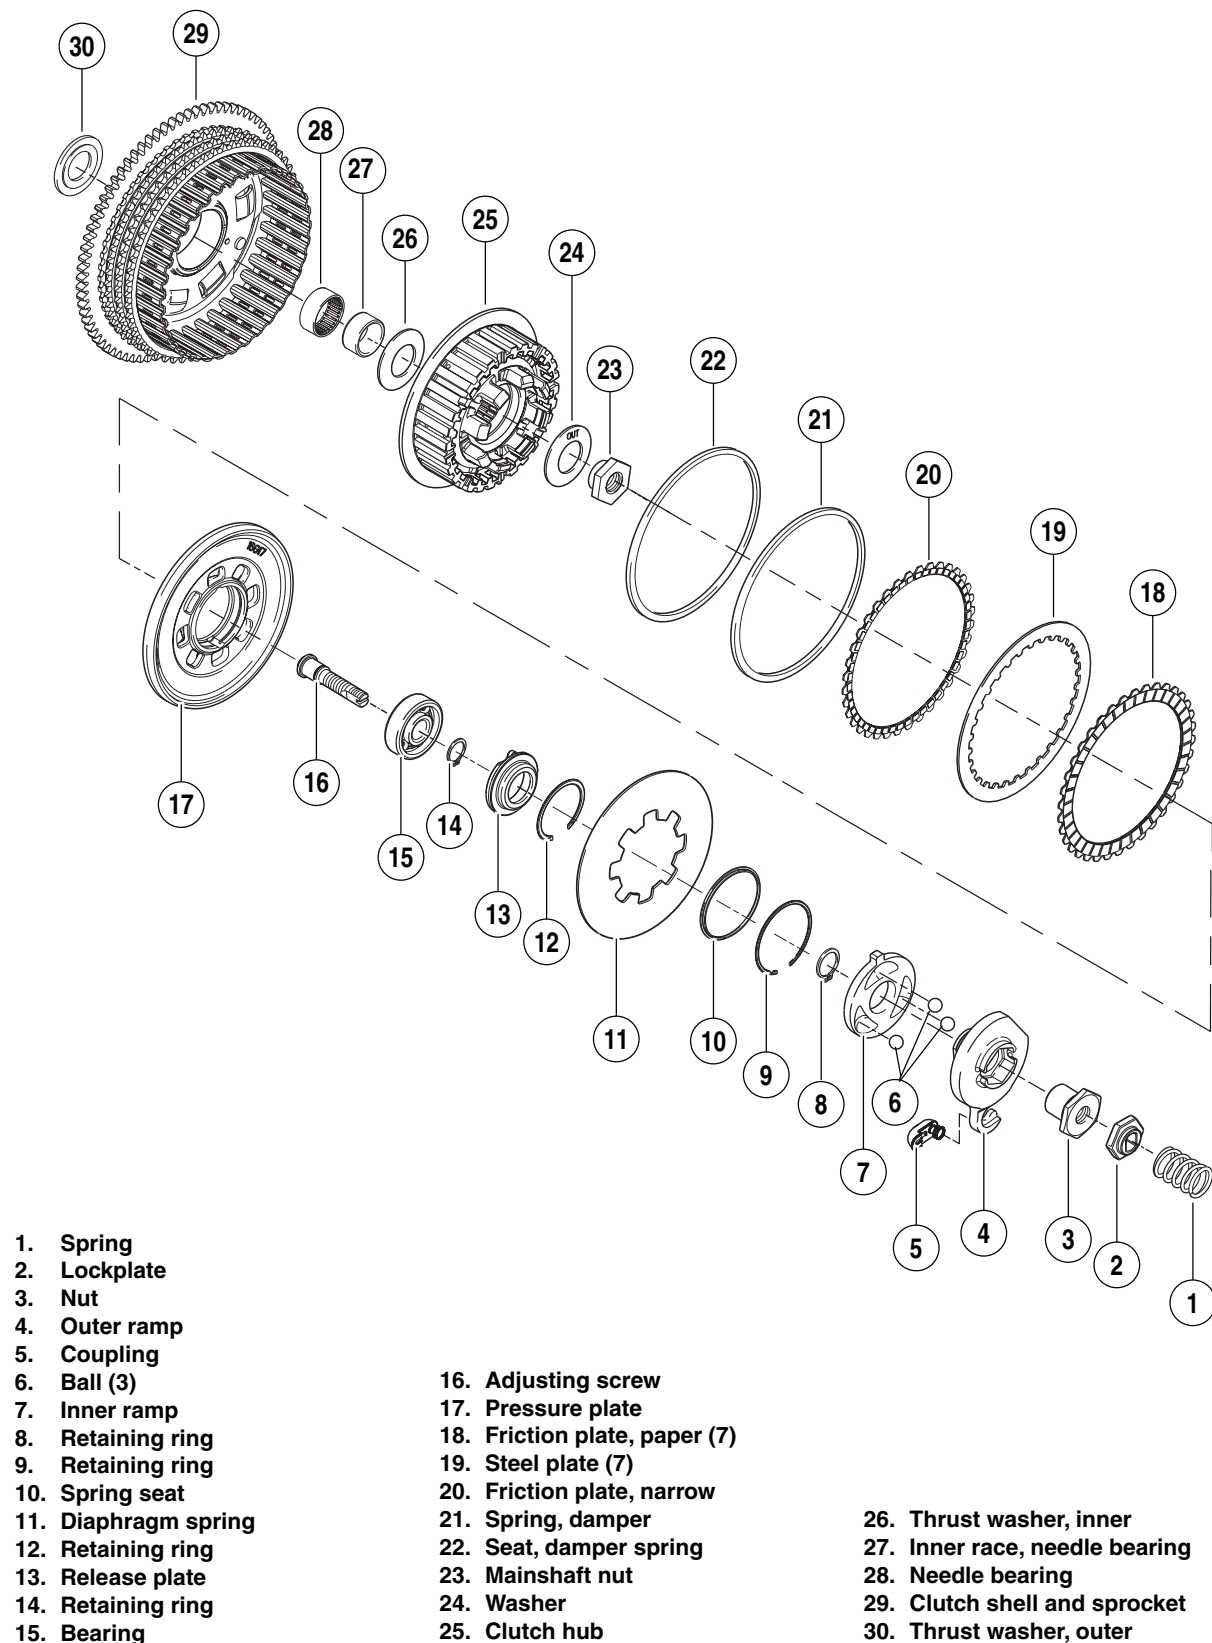

Figure 6-12. Clutch Assembly
See Figure 6-12. The clutch is a wet, multiple-disc clutch with steel plates and fiber (friction) plates stacked alternately in the clutch shell. The pack consists of seven fiber plates, seven steel plates, one narrow fiber plate, one damper spring and one damper spring seat. The fiber plates (clutch driving plates) are keyed to the clutch shell, which is driven by the engine through the primary chain. The steel plates (clutch driven plates) are keyed to the clutch hub, which drives the rear wheel through the transmission and secondary drive belt.
4. See Figure 6-12. Remove the clutch pack from the hub/shell assembly. The pack consists of seven fiber plates, seven steel plates, one narrow fiber plate, one damper spring and one damper spring seat.
See Figure 6-12. Mainshaft nut has left-hand threads. To prevent damage, turn nut clockwise to loosen and remove from mainshaft.